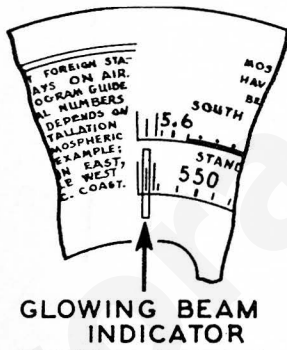

Fig. 7. Dial Calibration Model 5
- Holding the tuning condenser in this position, loosen the dial clamp; then turn the dial until the indicator is centered on the middle index line (See Fig. 7). Tighten clamp in this position.